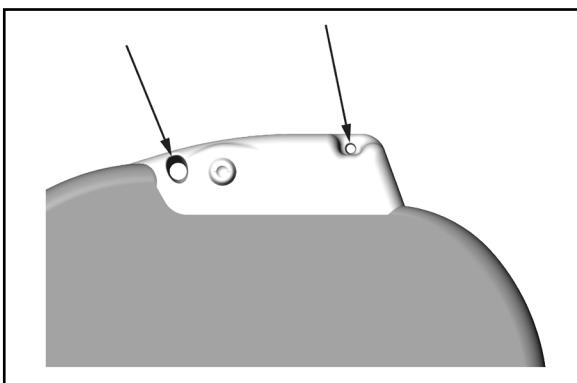

Figure 18: Header suture holes for anchoring the device
9. Anchor the device to the fascia to prevent possible migration using conventional 0- silk or similar non-absorbable suture material. Two suture holes are provided in the header for this purpose (*Figure 18*).